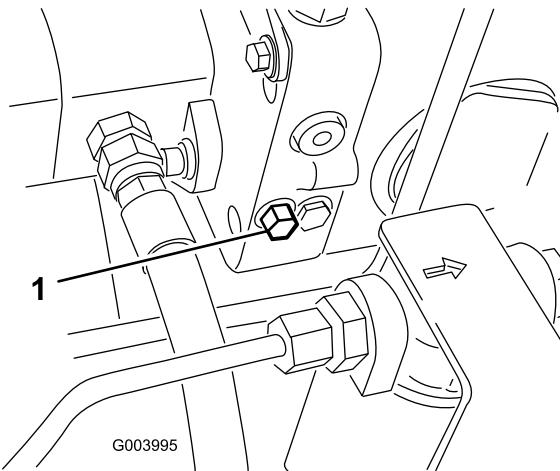

Figure 22
- The bypass valve is located on the left side of the hydrostat (Figure 22). Rotate the bolt 1-1/2 turns to open and allow oil to bypass internally. Because fluid is bypassed, the machine can be moved slowly without damaging the transmission.